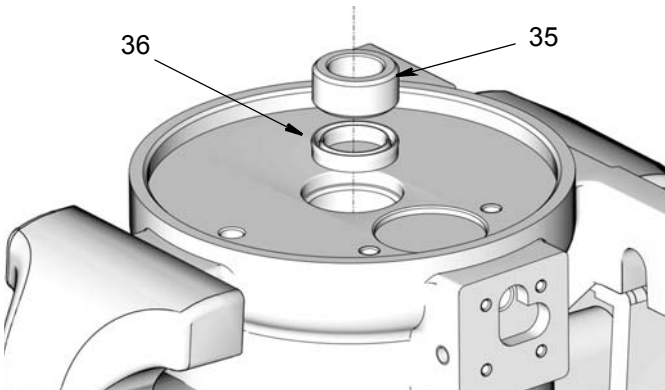

FIG. 28
1. Install u-cup seal (36) with lips facing up, and bushing (35) in air cylinder (3) (FIG. 28).